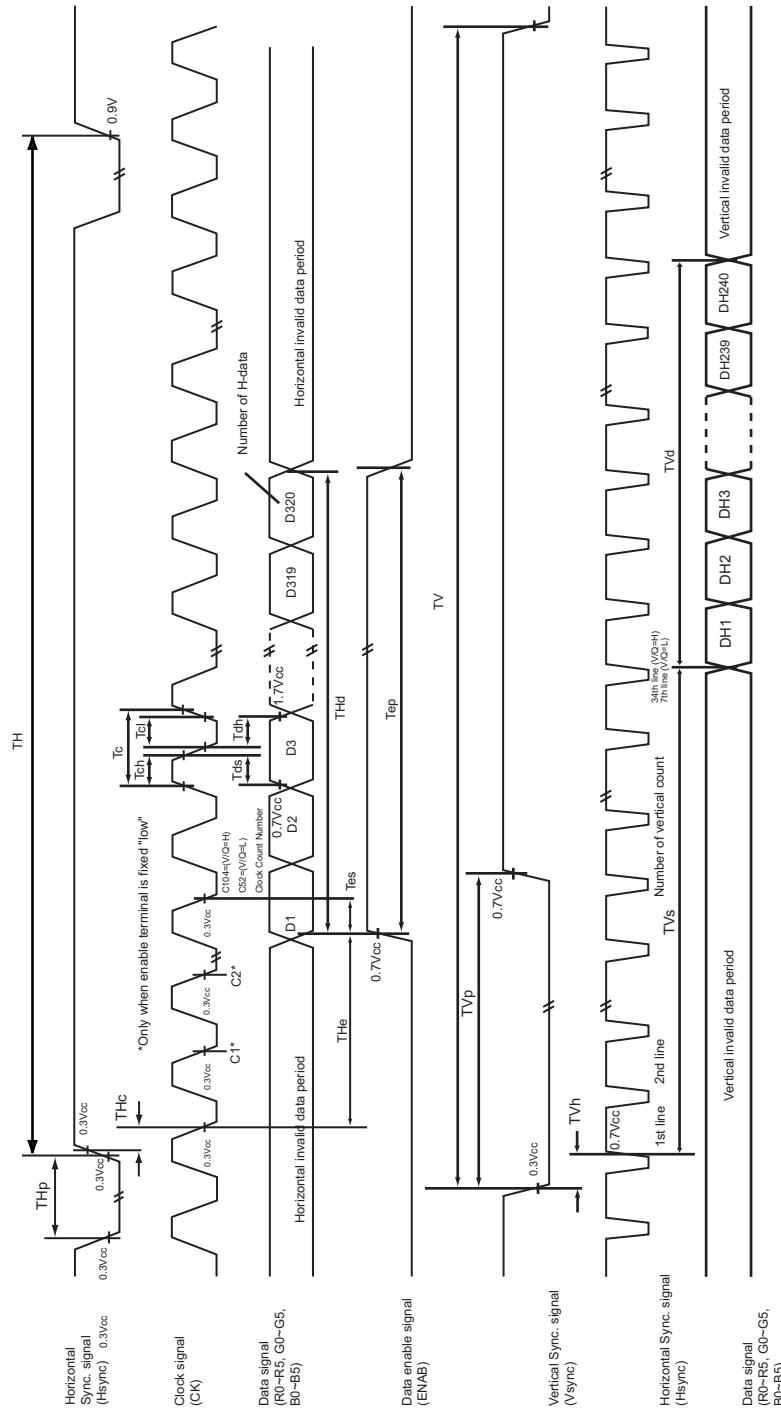

Fig 8. Input signal waveforms
- When ENAB is fixed at "V/Q=Low", the display starts from the data of C52 (clock) as shown in Fig. 8.
- When ENAB is fixed at "V/Q=High", the display starts from the data of C104 (clock) as shown in Fig 8.